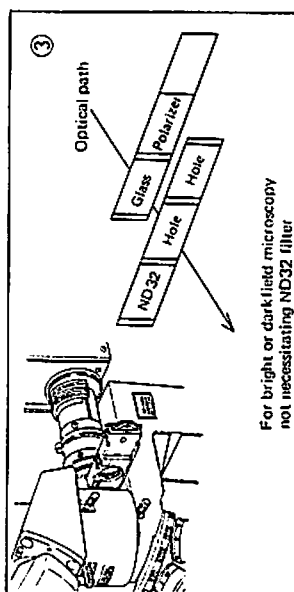

Fig. 6-3
(3) If no use of the ND 32 filter is necessary under bright- or darkfield illumination, push only the ND filter slider leftward in, until it stops with a click. (Fig. 6-3)